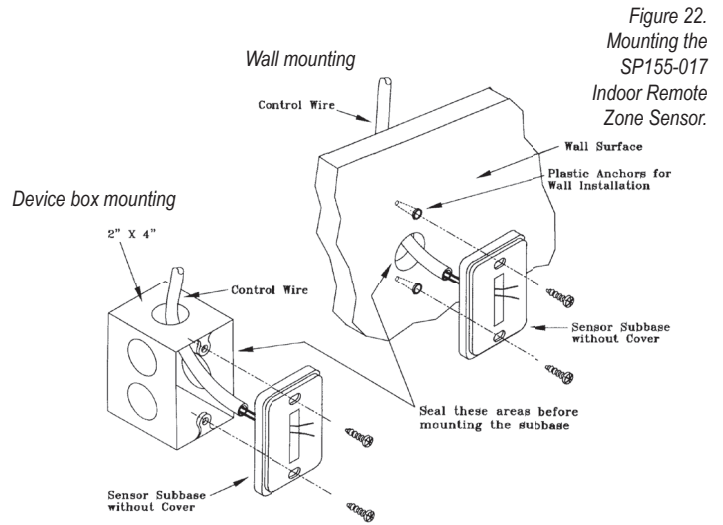

Figure 22. Mounting the SP155-017 Indoor Remote Zone Sensor.
2. **Mount subbase.** Remove Zone Sensor cover from the subbase, and mount subbase on the wall or in a 2' X 4" device box. Route the wires through the wire access hole in the subbase (see Fig. 22). Seal the hole in the wall behind the subbase.